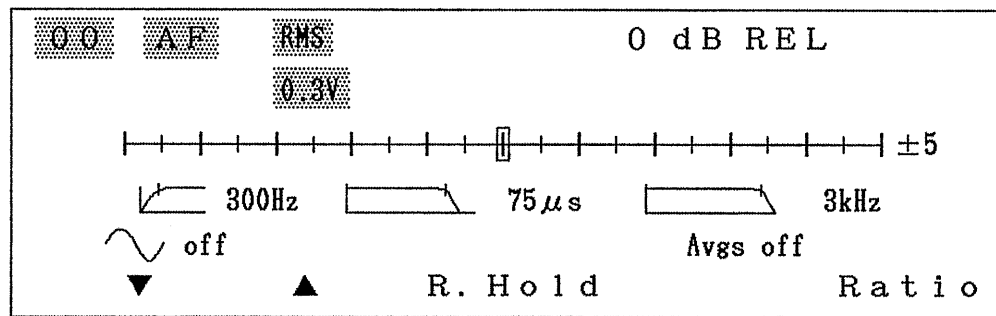

Fig. 4-13
2. The signal generator (SG) is set to the external modulation mode and the frequency, output level and modulation factor are set.
5. The frequency of the external audio frequency oscillator is set to 1kHz and the F5 Ratio function key ③ is pressed to inversely display it in dark characters on a light background.
6. All settings are now completed. The frequency characteristics for the frequency of the external audio frequency oscillator can be read directly from viewing area 2 as shown in Fig. 4-13. In addition, a rough idea of deviation can be determined from the bar graph.